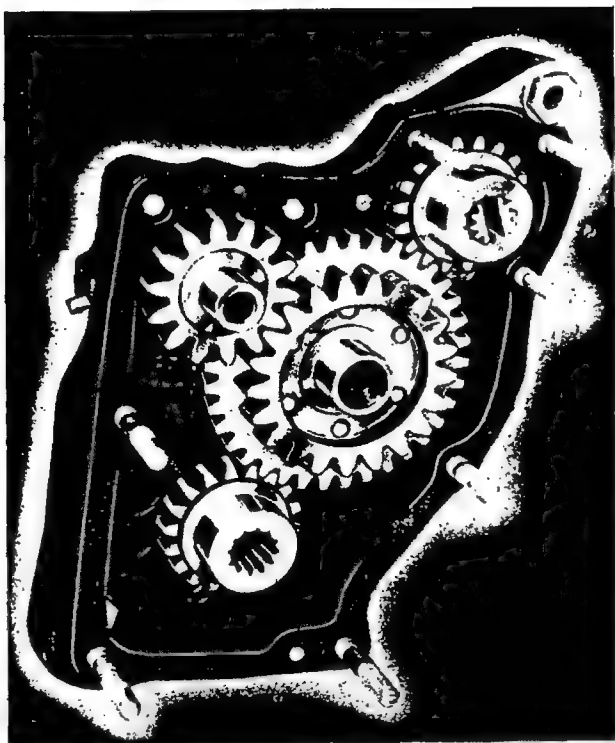

Figure 67—Dual Accessory Drive Gears
(1) To change the speed ratio of the accessory drives to the crankshaft, it is necessary to replace the two gears in the primary gear train (identified by their large teeth) with two gears of the desired ratio. The primary gear train consists of the drive gear machined integral with a splined shaft, and the intermediate gear which is bolted to the driving gear of the secondary train (identified by their small teeth). See figure 67.
(2) Six cap screws are employed to retain the intermediate gears together. The drilled heads are lock-wired together and do not require washers.